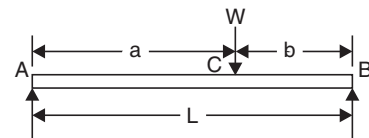

FIGURE 8.25
206. A fixed beam of span (l) carries a point load (W) at a distance a from one end as shown in Fig. 8.25. The fixing moment at the end A will be given by
208. For the fixed beam shown in Fig. 8.25, if $a > b$, then fixing moment at A will be
209. For the fixed beam shown in Fig. 8.25, the deflection at C will be
210. For the fixed beam shown in Fig. 8.25, if $a > b$ then maximum deflection occurs
211. For the Fixed beam shown in Fig. 8.25, the maximum deflection is equal to